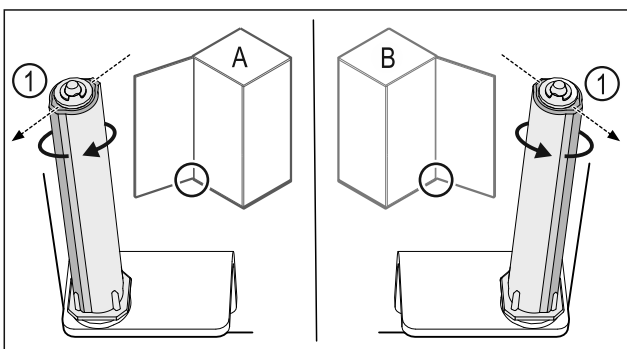

Fig. 26 Left-hinged (A) / Right-hinged (B)
- ▶ Turn the closing system against the resistance until the bar of the closing system Fig. 26 (1) points outwards.